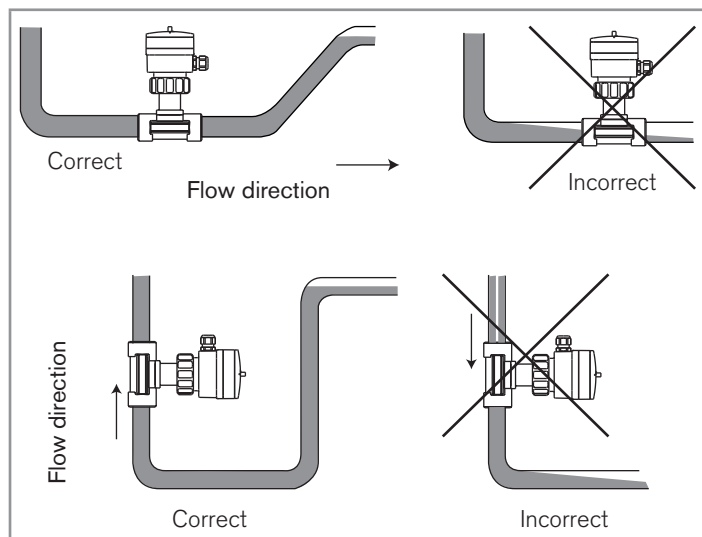

Fig. 7: Filling of the pipe
- Ensure that the pipe is always filled in the section around the measuring device (Fig. 7).